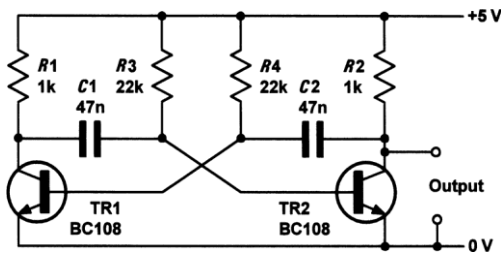

Figure 9.23 See Questions 9.7 and 9.8.
- 9.7 Explain, briefly, how the astable multivibrator shown in Fig. 9.23 operates. Illustrate your answer using a waveform sketch.
- 9.8 Determine the output frequency of the signal produced by the circuit shown in Fig. 9.23.